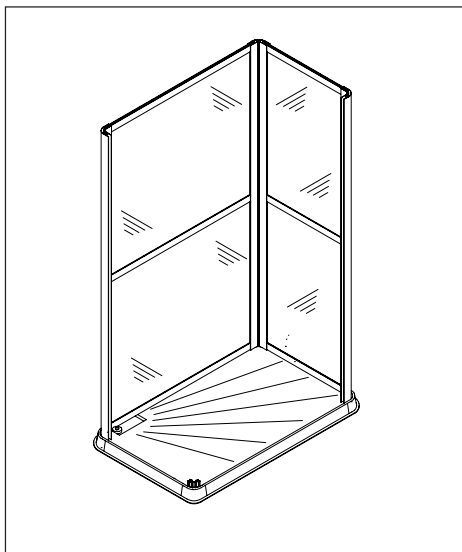

Fig 4.5
6. Fig 4.5 Position the corner post (6) repeat as instruction 4.